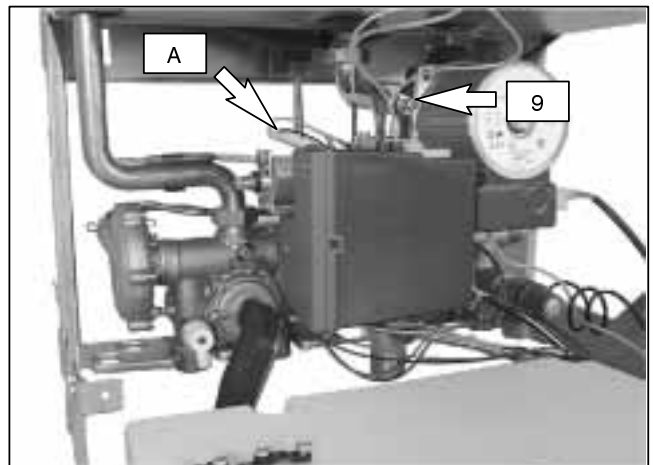

fig. 4.5
Loosen the internal screw (9 in fig. 4.5) on the pressure test point for measuring outlet pressure at the gas valve and fit a pressure gauge using a hose;
Disconnect the gas modulator by removing the connector A (fig. 4.5).
- 3 Unscrew the gas valve's outlet pressure tap (9 in fig. 4.5) and connect a pressure gauge.